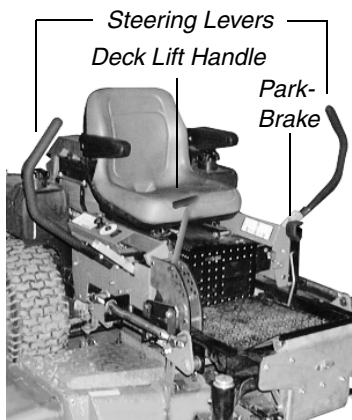

Figure. 3
4. **Left and Right Steering Levers:** (See Figure 3.) These hinged levers open out to the side in the neutral position to permit the operator to be seated or to leave the mower's seat. The operator, when seated, can pull the levers up to the operating position, a comfortable forearm's length away. These levers control all of the movements of the mower. Pushing both levers forward causes the mower to move forward. Pulling both levers back causes the mower to move backward. Pushing one lever ahead of the other lever causes the traction wheel on the side where the lever is ahead to rotate faster than the other traction wheel, making the mower turn toward the side where the lever is behind. When one lever is pushed forward and the other lever pulled back the same amount, one traction wheel will turn in reverse and the mower will turn within its own length.
6. **Parking Brake:** (See Figure 3.) Located on the left side of the traction unit. The handle is an overcenter lever which applies the drum-type brake on each drive wheel when the handle is pulled to the rear. The brake must be engaged in order to start the engine.
7. **Deck Lift Handle and Foot Pedal Lift Assist:** (See Figure 3.) Located on the right front corner of the mowing deck. Raise the mowing deck to the transport position, by pulling the lever to the rear and moving it inward into the stop for transport. To lower the mowing deck, pull the deck lift handle and move it outward. This lowers the deck to the cutting position. The foot pedal lift assist (not pictured above) can provide “lift assist” to the hand lever or with “foot effort only”. To provide assistance to the lift handle: remove the detent pin from the pedal assembly. Fold the pedal down to the horizontal position so the hole in the pedal aligns with the hole in the lever. Re-install the detent pin. Pull on the Lift handle and depress the foot pedal to raise the deck. Lifting with “foot effort only” depress the foot pedal (the hand lever will lock into transport position if fully depressed). To release the lift mechanism depress the foot pedal, move the hand lever outward and slowly reduce foot pedal effort to lower the mechanism. To service the unit: Remove the detent pin from the pedal assembly. Fold the pedal up to vertical